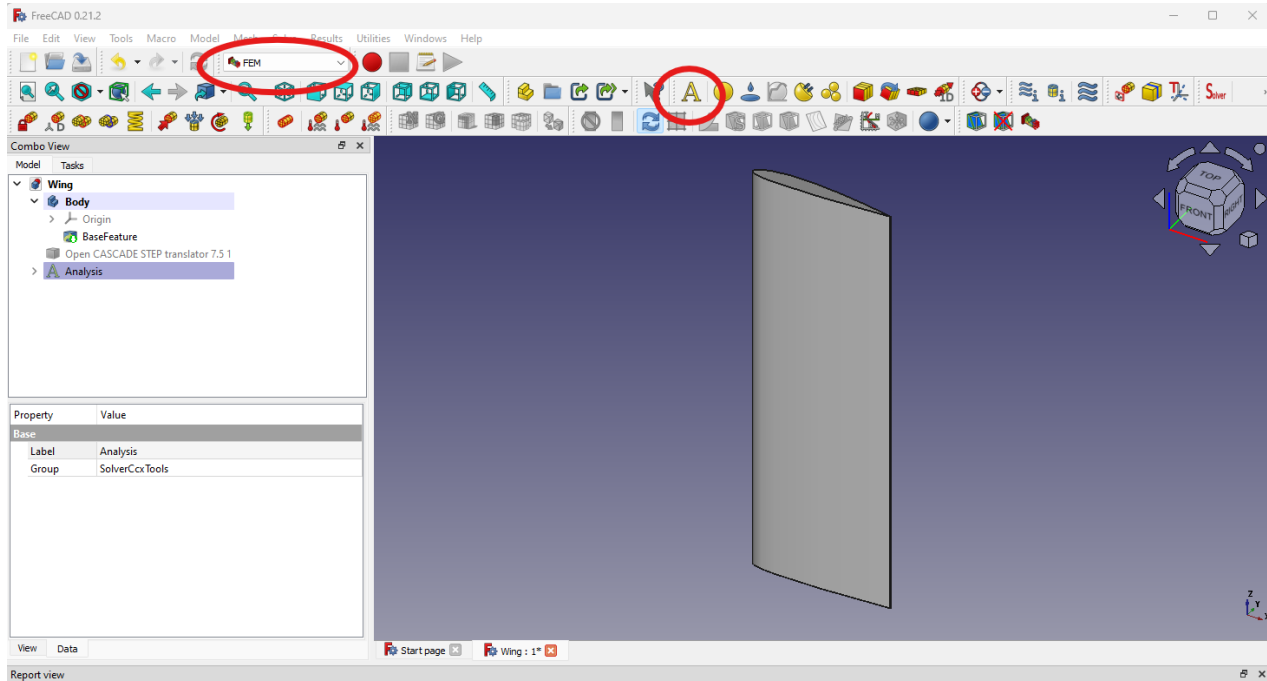

Figure 8: FreeCAD: Add an Analysis container
- From the menu bar, click **Model -> Analysis container** (or select the **A** symbol from the toolbar, Figure 8).